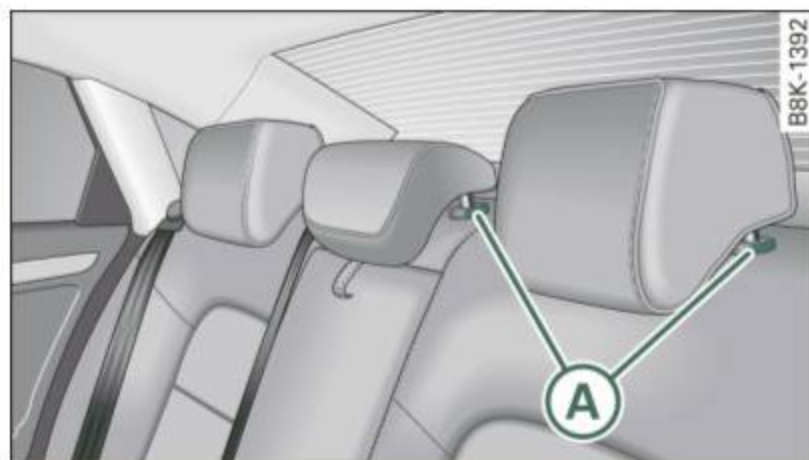
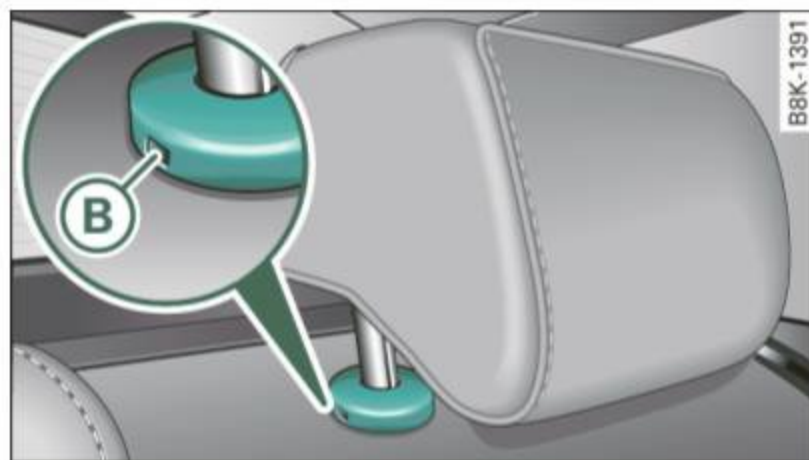

Fig. 74 Rear seats:
Fig. 75 Rear head
- To move the head restraint down, press the button **(A)** ⇒ fig. 74 and slide the head restraint downward.
- Press the release **(B)** ⇒ fig. 75 with the mechanical key ⇒ *page 40* and the button **(A)** ⇒ fig. 74. Pull the head restraint out of the backrest at the same time ⇒ .
- Press the button **(A)** ⇒ fig. 74 and slide the head restraint all the way down. You should not be able to pull the head restraint out of the backrest.